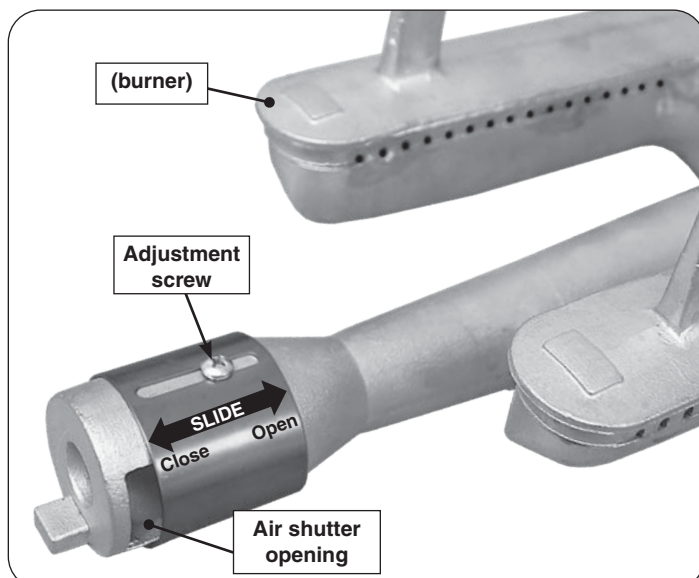

Fig. 39-2 Main burner air shutter adjustment detail
1. To adjust the air shutter, loosen the adjustment screw with a Phillips screwdriver. Then slide the shutter to open or close it. See Fig. 39-2 for details.